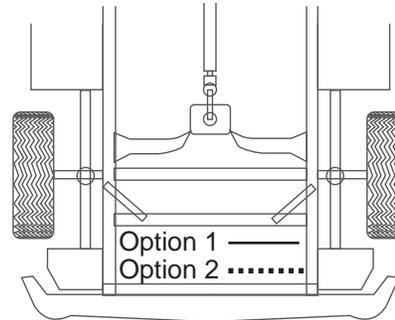
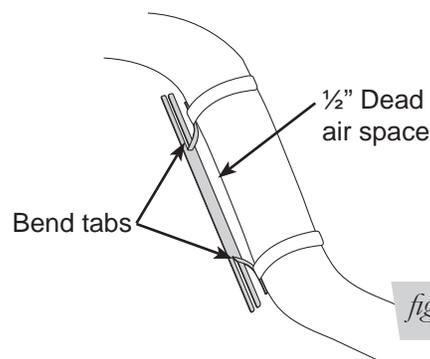

fig. 14
fig. 15
- Route the air line along the frame to the air fitting on the air spring (fig. 15). Keep AT LEAST 6" of clearance between the air line and heat sources, such as the exhaust pipes, muffler, or catalytic converter. Avoid sharp bends and edges. Use the plastic tie straps to secure the air line to fixed, non-moving points along the chassis. Be sure that the tie straps are tight, but do not pinch the air line. Leave at least 2" of slack to allow for any movement that might pull on the air line (fig. 14).
- Attach the heat shield to the exhaust pipe using the clamps. Bend the heat shield for maximum clearance to the air spring (fig. 15).